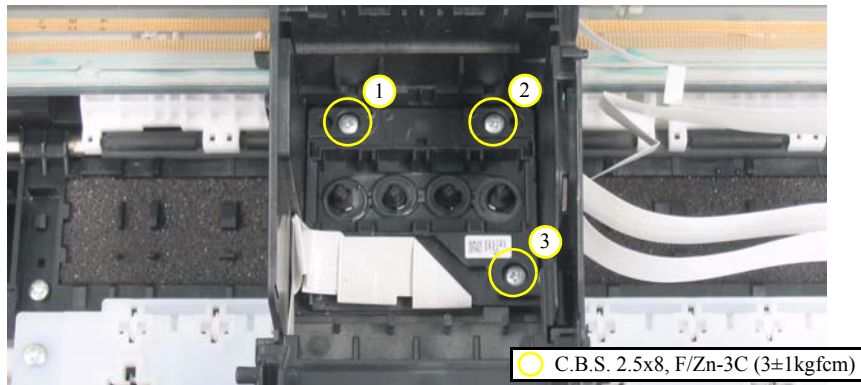

Figure 4-138. Removing the Printhead (1)
- Tighten the screws in the order given in Figure 4-138.